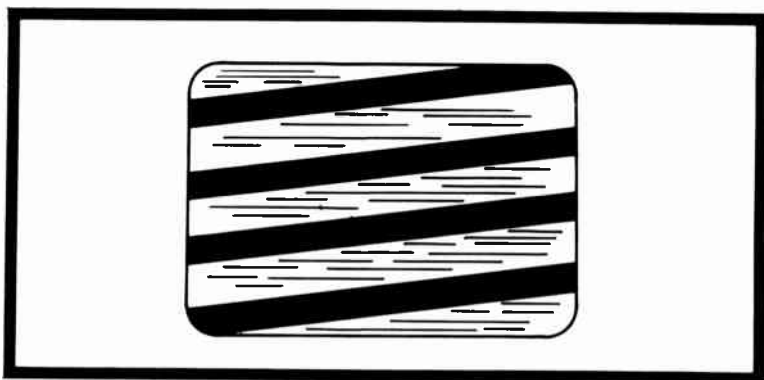

Fig. 2-5. A display on your TV screen similar to this drawing is a case of horizontal tearing.
**Horizontal Lock-In:** This adjustment, like the previous one, is found only on some sets. Its behavior is somewhat similar to the hold control described earlier. Turning it from its normal position toward either extreme will produce a diagonal tearing of the picture, in one direction or the other, like one or the other of the two arms of the letter X, depending on the direction of rotation of the adjustment. Fig. 2-5 is an example of such tearing. The lock-in control's correct setting is the point where channel changing or adjustments will not produce any tearing (thanks to the automatic control by the horizontal sync pulse).